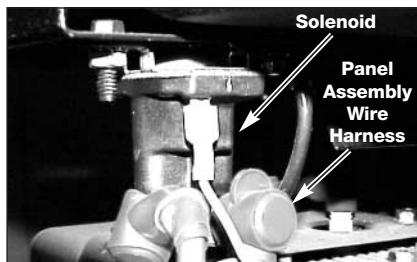

Figure 4
3. Place "L" bolt (B) through top and bottom brackets and secure with wing nut (C).
4. Locate the solenoid on the left side of the unit. See Figure 4 and 5.
5. Remove the nut from the solenoid post with the panel assembly wire harness. Place one end of the positive (red) battery cable onto this post with the panel assembly wire. Reassemble nut and tighten securely. See Figure 4.